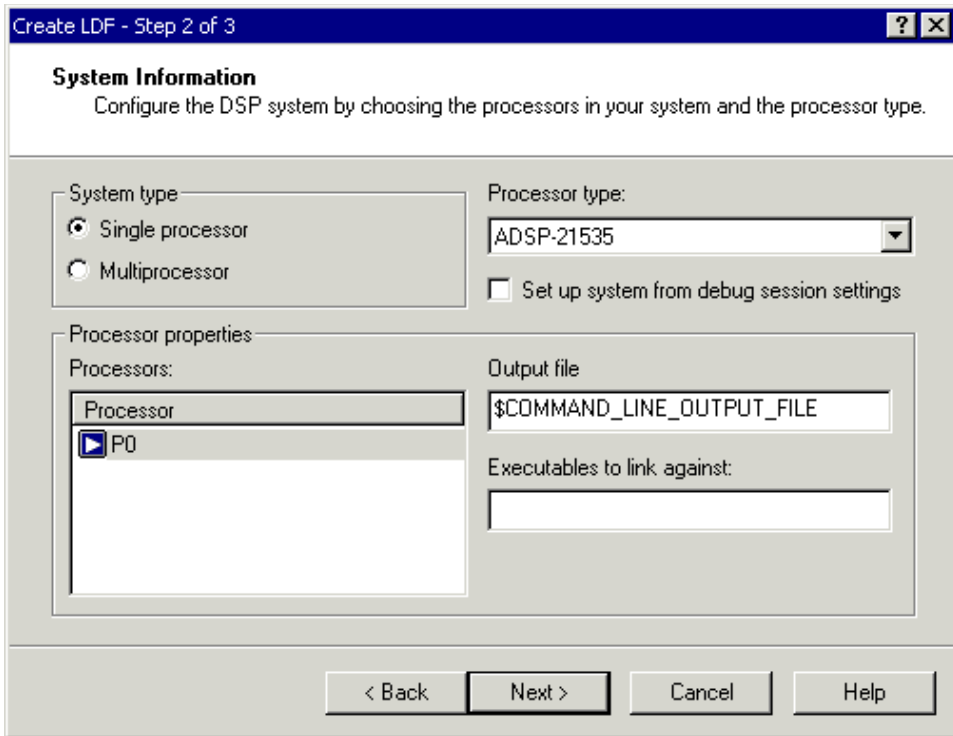

Figure 2-16. Create LDF – Step 2 of 3 Page
3. Accept the values selected for your project and click **Next** to display the **Create LDF – Step 2 of 3** page, shown in Figure 2-16 on page 2-24.